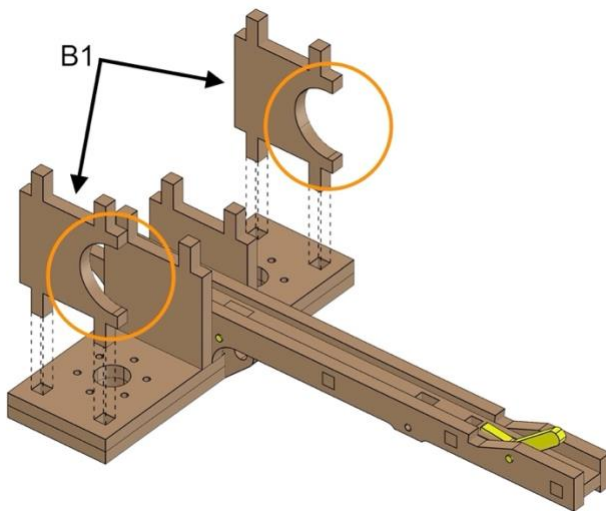

Fig. 19
- Align parts exactly as shown in *Fig. 19*.